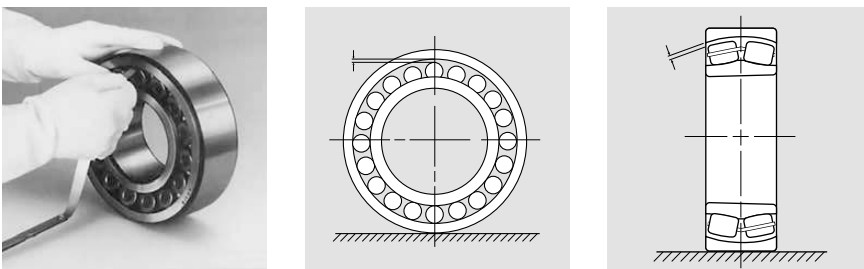

Fig. 1: Checking bearing clearance with bearing on bench.
In the fixed plummer block, to prevent axial displacement of the bearing, 2 locating rings are installed, one on either side of the bearing. Axial displacement of the shaft is then impossible (**Fig. 1**). If the system is subjected to variations of temperature, the shaft may expand or contract axially.
Fig.1: In the fixed plummer block, to prevent axial displacement of the bearing, 2 locating rings are installed, one on either side of the bearing. Locating rings are manufactured in aluminium.
1. With bearing on bench check clearance using the feeler gauges over the top of the rollers at the top of the bearing as shown in **Fig. 1** and note the clearance.